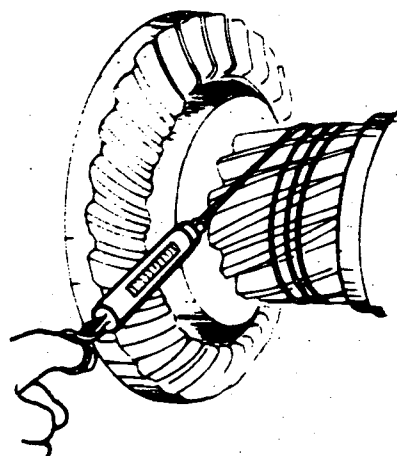

Fig. 6
- The tension necessary to rotate the pinion, thereby governing the preload of its bearings (fig. 6).